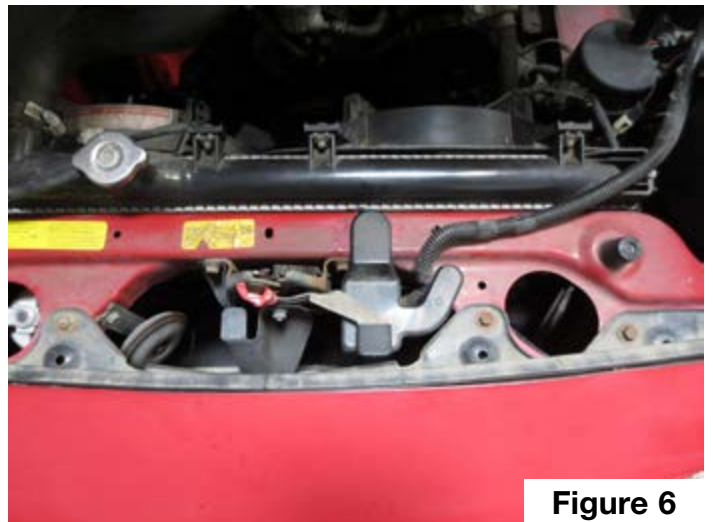

Figure 6
- 15) Locate the air bag sensor near the front center of the engine bay. Grab the front and rear of the cover and gently pull up to remove it. This cover will not be reinstalled. See Figure 6